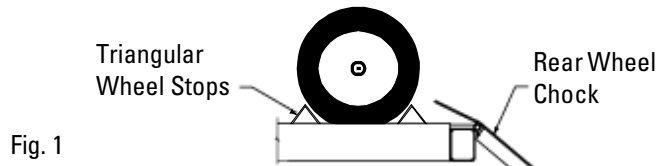

Fig. 1
3. Stop vehicle when it contacts the front wheel stops. At all times, be sure rear wheels are forward of the ramp/chocks and the ramp/chocks will clear tires when the lift is raised, Fig. 1. Driver and passengers must exit before raising.
4. Place triangular wheel chocks on each side of one of the rear tires, Fig. 1.
13. Fully lower lift, remove the triangular wheel chocks and check to be sure area is clear before removing vehicle from lift, Fig. 1.